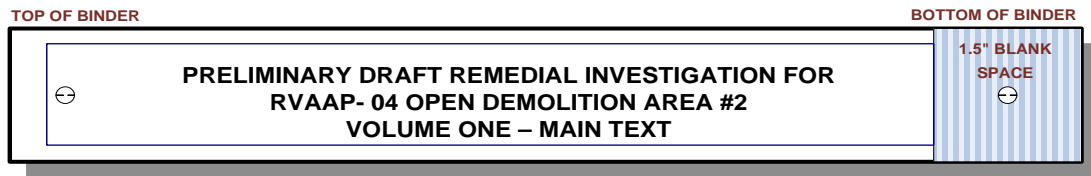

Figure K-1. Binder Spine Label Example – Horizontal
1. A space of 1.5” inches must be left blank at the bottom of the binder spine to allow for RVAAP cataloging information. (Note shaded area in Figures K-1 and K-2.)
5. The placement of the Spine Label must appear as shown in Figures K-1 and K-2.